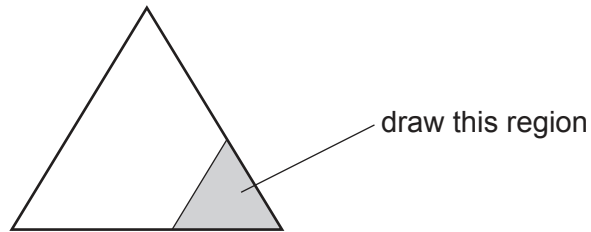

Fig. 2.1
- (a) (i)** Draw a large plan diagram of the region of the stem on **N1** indicated by the shaded area in Fig. 2.1. Use a sharp pencil.